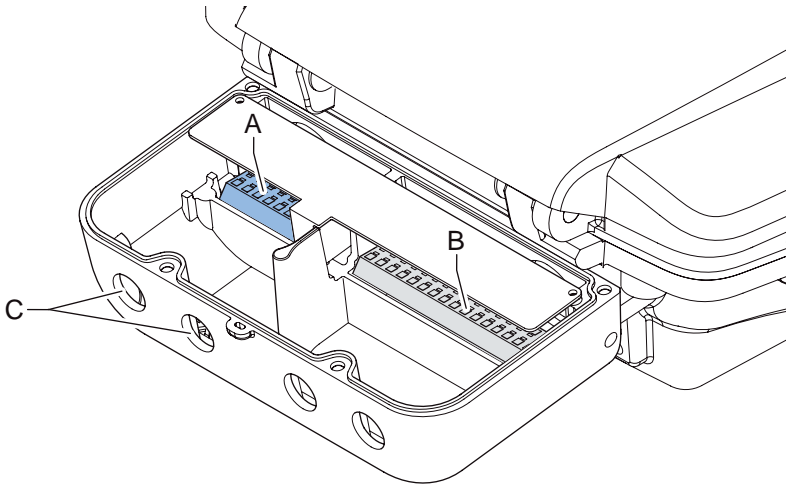

FIG. 4-6 Ex-i entry with SmartConn
The terminal compartment is located at the rear, inside of the device (see FIG. 4-7). If there is a SmartConn present, you use the terminals of the SmartConn (see FIG. 4-6). These terminals are numbered identical to the terminal compartment in the device.
The intrinsically safe cabling must enter at the gland (C) only. This entry is marked "Ex-i". See FIG. 4-6. Blue marked cables are recommended for the intrinsically safe options.